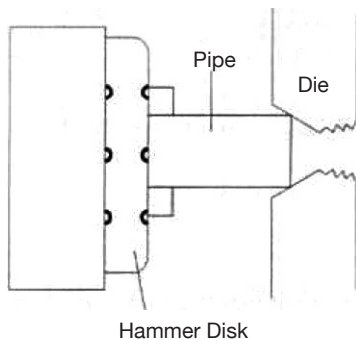

Fig. 4
- If your length of pipe is short and doesn't reach the rear chuck, loosen the front chuck slightly and insert the pipe so that it touches the die. This should ensure the pipe is in the central position when tightening the front chuck (see Fig. 4).